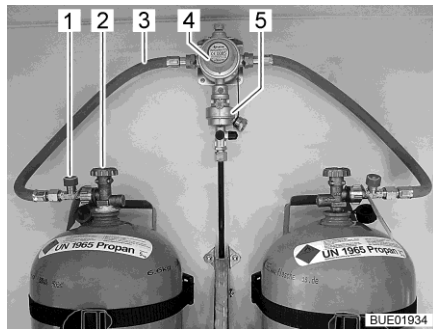
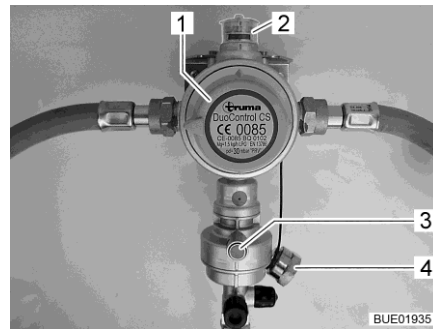

Fig. 64 Gas bottles with DuoControl
Fig. 65 DuoControl regulating system
The DuoControl regulating system consists of a reversing valve (Fig. 64,4) and a crash sensor (Fig. 64,5). The DuoControl regulating system is installed between the gas tubes (Fig. 64,3) with hose break guard (Fig. 64,1). The knob (Fig. 65,1) on the reversing valve is used to select which of the gas bottles is to be used as primary bottle and which is to be used as reserve bottle.
The status of the gas supply is indicated in the inspection window (Fig. 65,2):
The operation with only one gas bottle is allowed but in this case the open connection must be closed with a blind cover (Fig. 65,4).
The crash sensor blocks the gas supply in the event of a significant impact (e.g. accident). The crash sensor is put into operation with the green reset button (Fig. 65,3).
The hose break guard (Fig. 64,1) blocks the gas flow if the connected hose breaks. The hose break guard must be activated by pressing the green button.
- Activate the hose break guard. In order to do this, press and hold the green button (Fig. 64,1) or press the hose break guard (Fig. 66,4) for about 5 seconds. The green marking is shown in the inspection window or on the status indicator (Fig. 66,1).
- Close the regulator taps (Fig. 64,2 or Fig. 66,5) on the gas bottles.
If the green indicator lamp (Fig. 67,6) goes out during operation and the red indicator lamp (Fig. 67,5) lights up, the primary bottle is empty and must be changed. The red marking is shown in the inspection window (Fig. 64,2) or on the status indicator (Fig. 66,1). The reserve bottle continues supplying the gas appliances with gas.
- Turn the knob (Fig. 66,6) a half turn in the direction of the currently used gas bottle. In this way, this gas bottle is the primary bottle now, and the empty gas bottle becomes the reserve bottle. The marking in the inspection window (Fig. 64,2) or on the status indicator (Fig. 66,1) changes from red to green.
- Close the regulator tap (Fig. 64,2 or Fig. 66,5) on the empty gas bottle. Pay attention to the direction of the arrow.
- Activate the hose break guard. In order to do this, press and hold the green button (Fig. 64,1) or press the hose break guard (Fig. 66,4) for about 5 seconds.